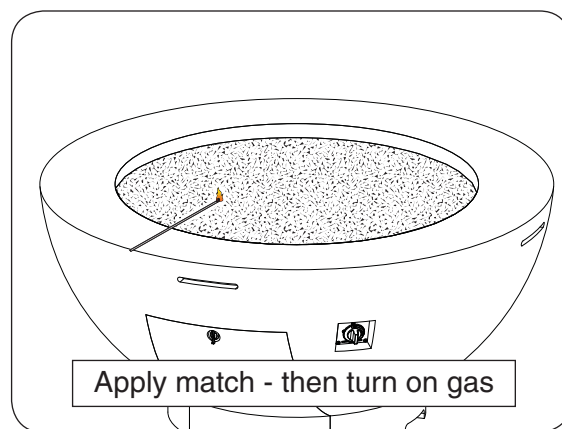

Fig. 35-1
- 3. Lay a lighted long-stem match on the surface of the decorative media near the burner (**do not hold the match in your hand**) or use a lighted long-necked butane lighter (Fig. 35-1).